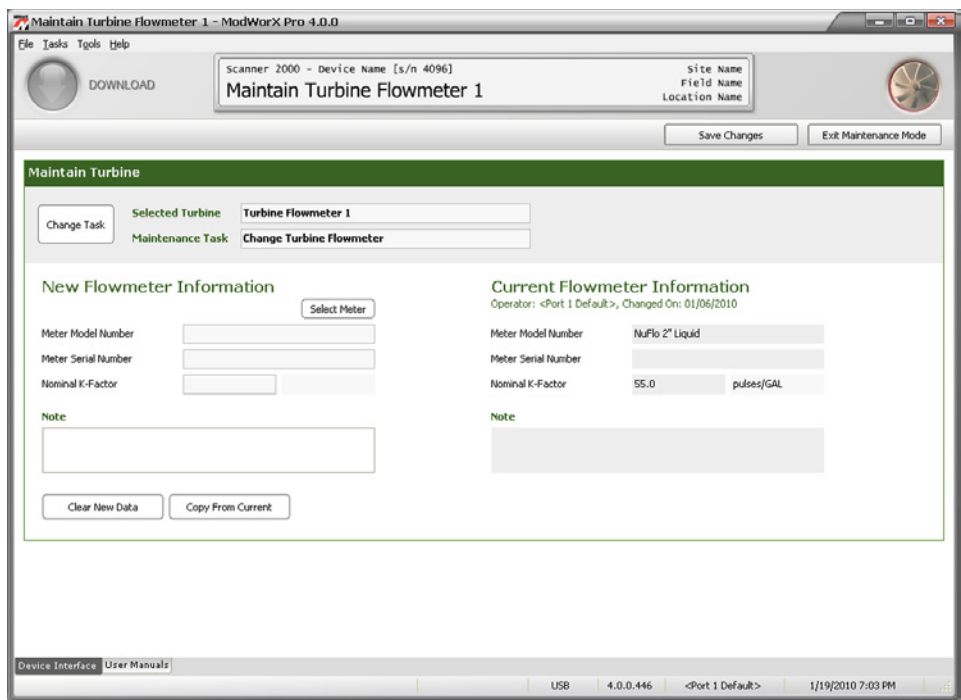

Figure 13.5
4. Click **OK** to save the settings and return to the Maintain Turbine screen (Figure 13.5).